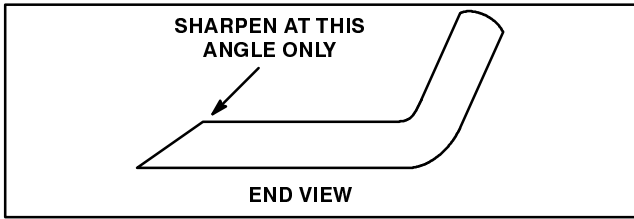

Figure 82
2. Inspect cutting edges of all blades. Sharpen the cutting edges if they are dull or nicked. Sharpen only the top of the cutting edge and maintain the original cutting angle to make sure of sharpness (Fig. 82). The blade will remain balanced if same amount of metal is removed from both cutting edges.